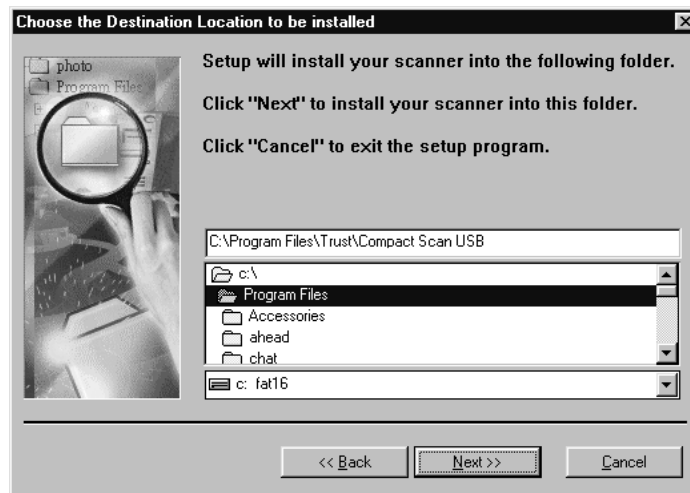

Figure 3: Determining the installation directory
- The window that pops up contains "welcome" information. Click on 'Next' to continue. Figure 3 will pop up.